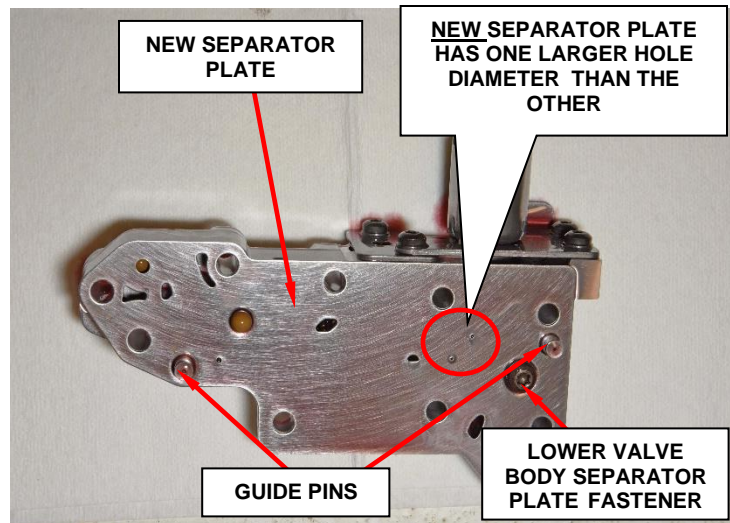

Figure 7 – Guide Pins
- Install the **NEW** Lower Valve Body Separator Plate, align to the lower valve body housing guide pins (Figure 7).
- Hand start the **NEW** Lower Valve Body Separator Plate fastener and torque to 6.5 N·m (57.5 in. lbs.) (Figure 7).